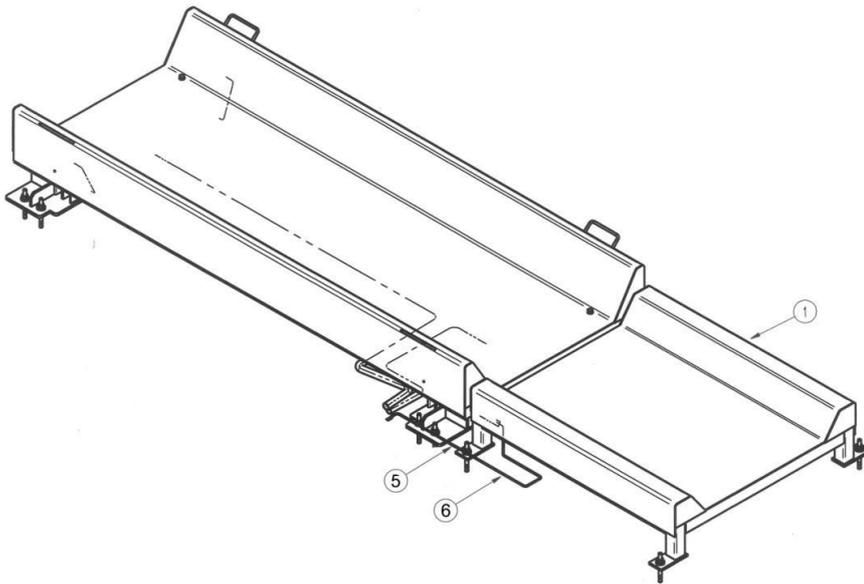

Figure 25: Weighing Platform Grounding
The Weighing Platform must be grounded as shown in Figure 25.
2. The Long Ground Wire (6) is the standard grounding of the platform to the construction.
3. If the Weigh Elevation Platform is included, attach the Short Ground Wire (5) as shown in Figure 25.